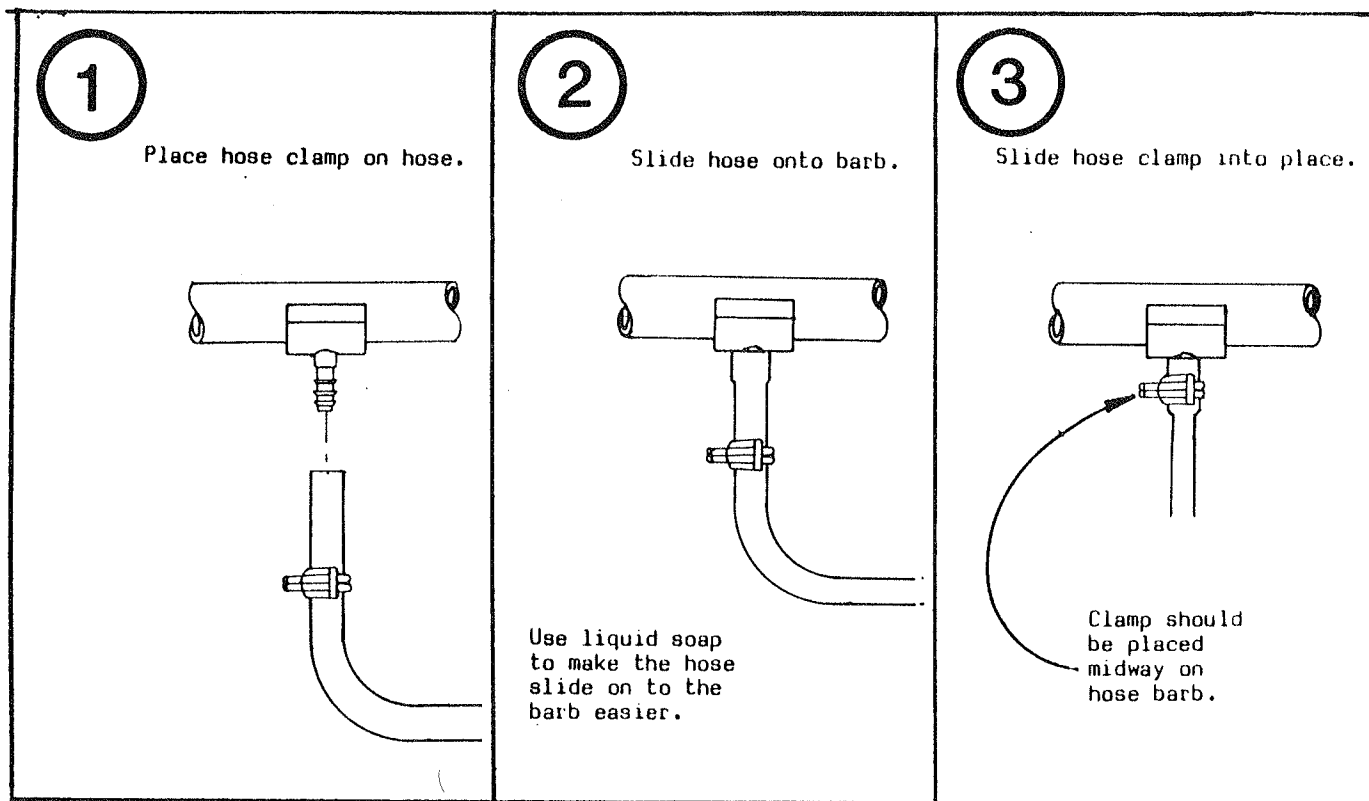

FIGURE 3. CORRECT INSTALLATION OF HOSES
6. Install the hose onto the Barb of the Conversion Barb. Note: The hose may have to be cut to take any slack out of the hose. Use pliers to install clamp onto barb. See Figure 3.